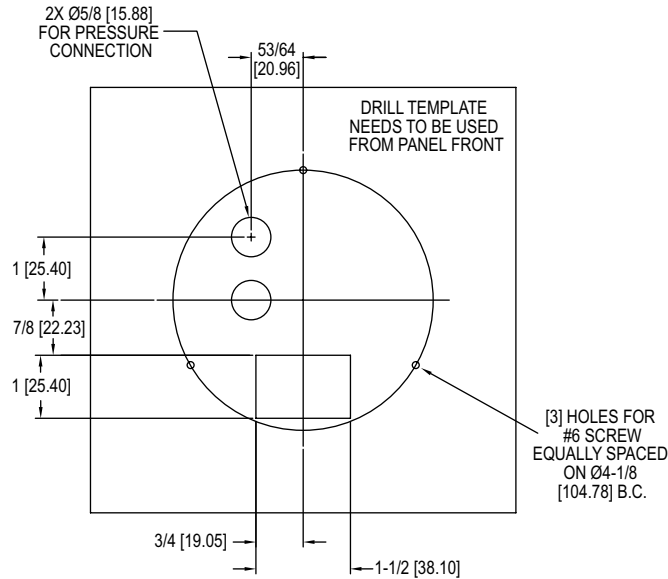
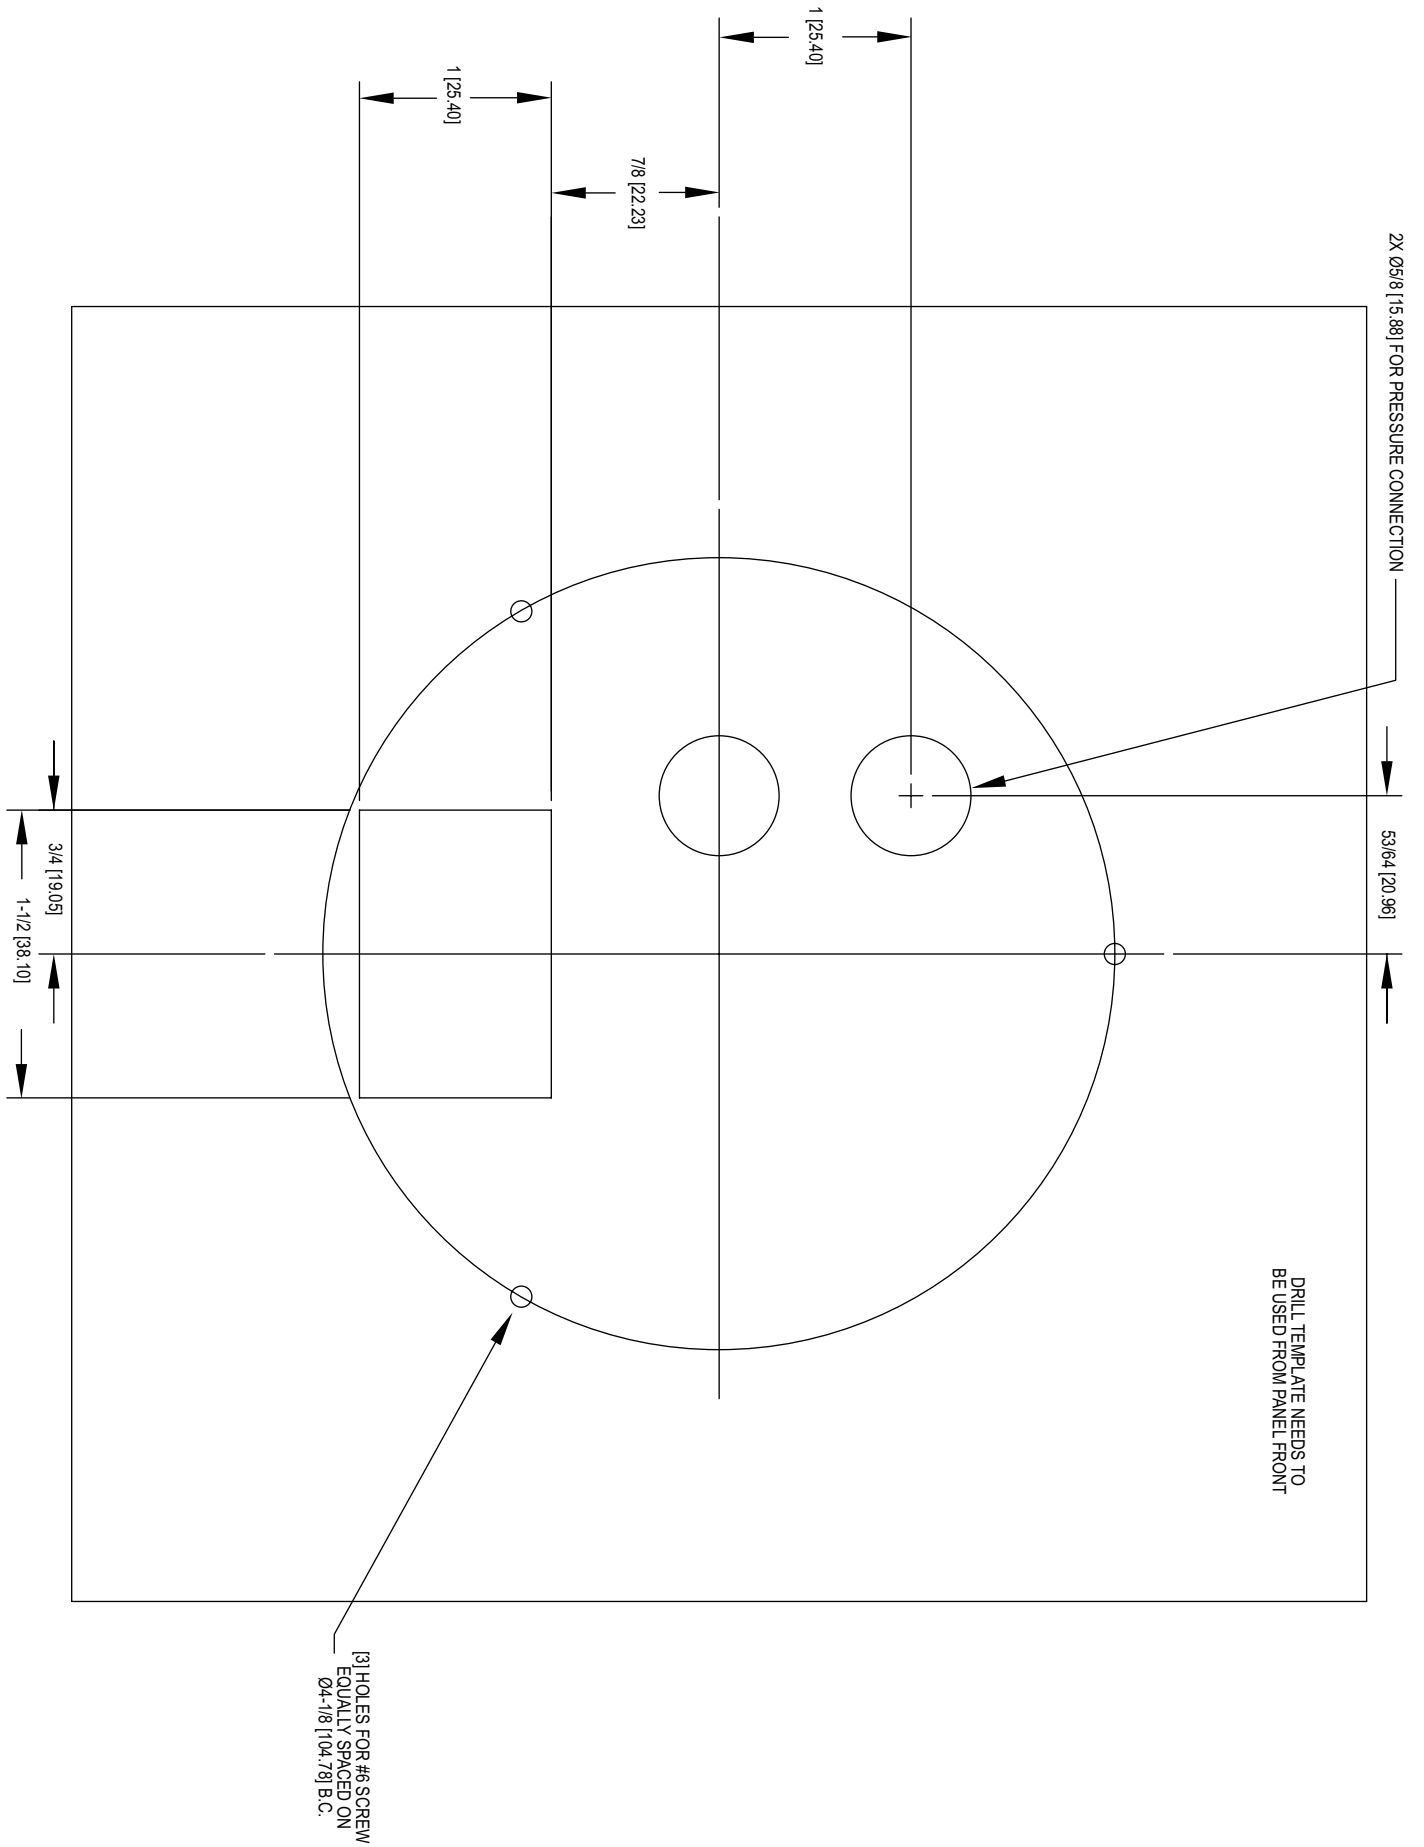

Figure 2: Surface Mount
Figure 4: Dimensional line drawing
- Step 1:** Use the drill template (Figure 4 on the next page) on the front of the desired mounting surface. Provide three 4.76 mm (3/16 in) diameter holes in panel on a 104.78 mm (4 1/8 in) diameter bolt circle. Cut the opening for the terminal block as shown in Figures 2 and 4.
- Step 2:** If the rear pressure connections are to be used, also provide 12.7 mm (1/2 in) diameter holes as shown in Figures 2 and 4.